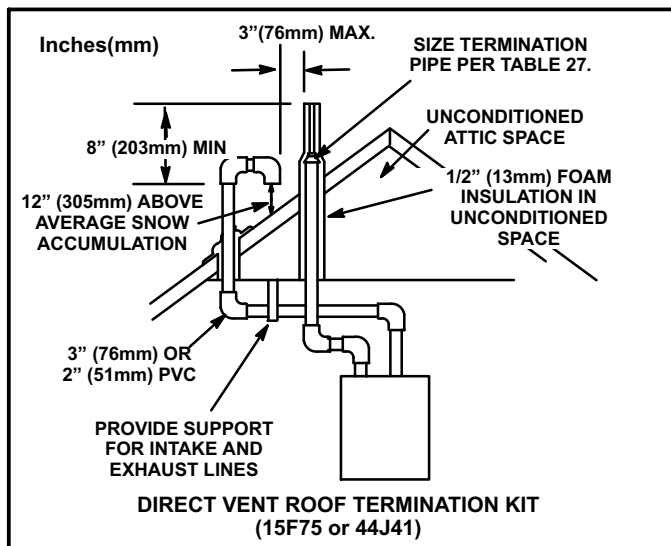

FIGURE 31
Intake and exhaust pipes may be routed either horizontally through an outside wall or vertically through the roof. In attic or closet installations, vertical termination through the roof is preferred. Figures 31 through 38 show typical terminations.
3. On roof terminations, the intake piping should terminate straight down using two 90° elbows (See figure 31).